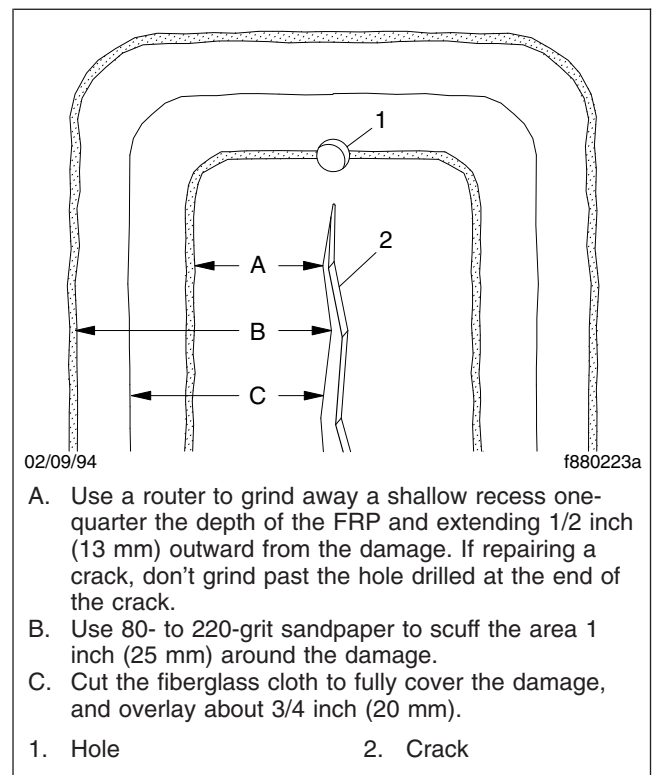

Fig. 5, Preparing the Damaged Area on the Engine Side of the Hood
If repairing a crack, grind outward to the drilled hole at the end of the crack, but not beyond. See Fig. 5, Ref. A.
6. Use 80- to 220-grit sandpaper to scuff an area at least 1 inch (25 mm) away from the fracture on all sides. Be sure to scuff thoroughly, since this will give the patch a surface to which it can stick. See Fig. 5, Ref. B.
9. With a razor-blade knife, cut a section of woven fiberglass cloth to fully cover the crack and to overlay about 3/4 inch (20 mm). See Fig. 5, Ref. C.